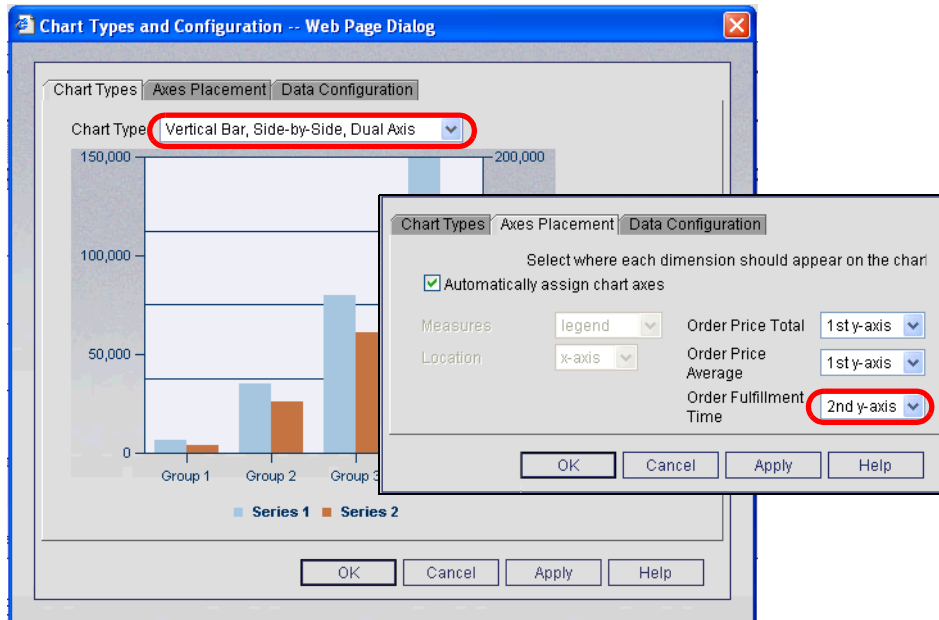

Figure 14-83 Selecting chart type and axis placement
- On the Chart Types tab, select *Vertical Bar, Side-by-Side, Dual Axis* (Figure 14-83).